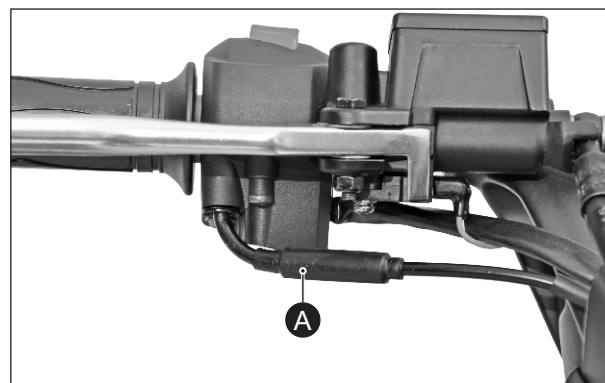

Fig. 2.71
- For checking the cable assembly throttle (throttle cable) free play, first dislocate the boot throttle (A) from its position. (Fig. 2.71)